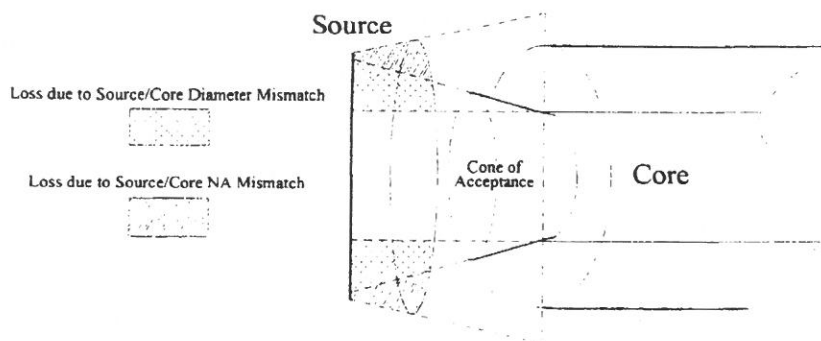

Figure 4.10 Source Coupling Loss
Refer to Figure 4.10. The output pattern is a statement of how much the light spreads out as it leaves the source. A smaller output pattern allows for more light to be coupled into the optical fiber. The output pattern is based on the **emission diameter** and the **Numerical Aperture (NA)** of the source. If the **emission diameter is larger than the core diameter** or the **NA of the source is larger than the NA of the fiber core**, some optical power will be lost.